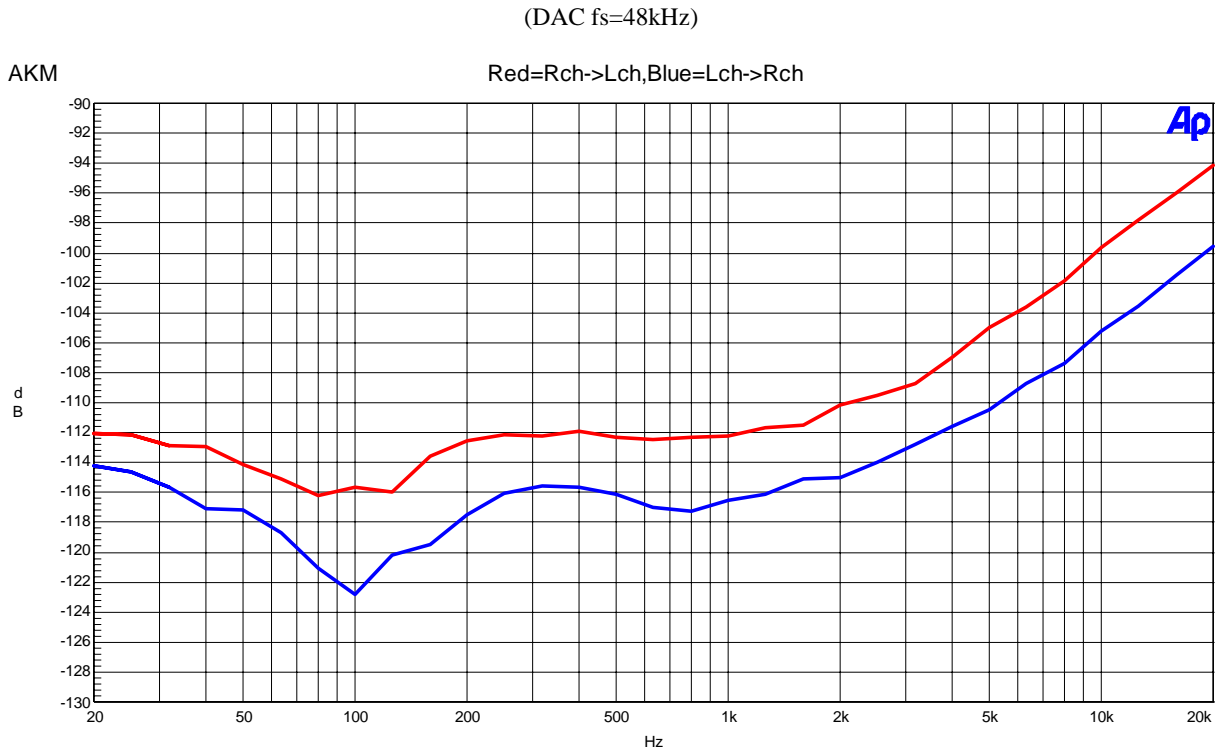

Figure 32. Cross-talk (Input Level=0dBFS)
- Figure 32. FFT (Input Frequency =1kHz, Input Level =0dBFS)